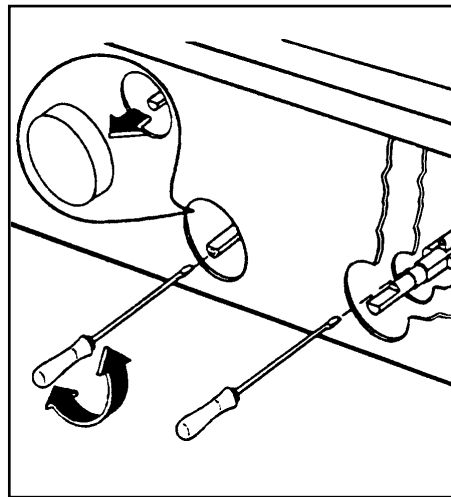

Fig. 31
To adjust the minimum level, turn the knob to the position of minimum flame, remove the knob (Fig. 31) and: in case of conversion from natural gas to LPG, tightly screw the by-pass pin of the cocks;
- in case of conversion from natural gas to LPG, tightly screw the by-pass pin of thermostat (fig. 31);